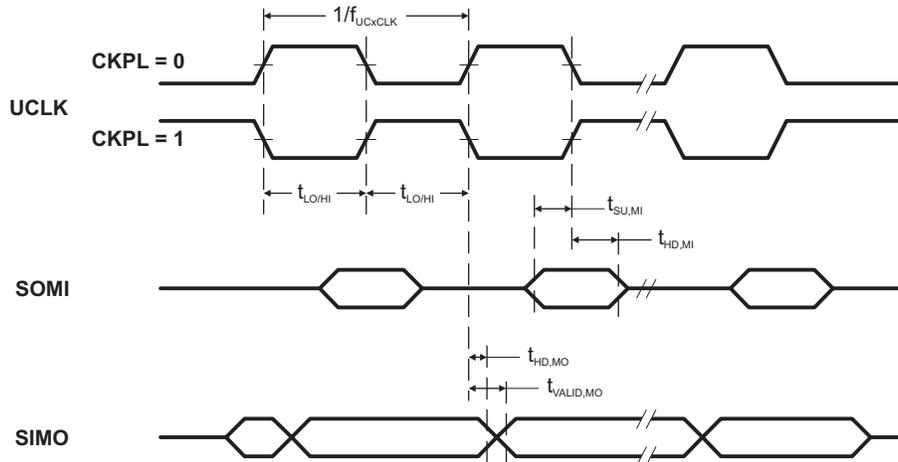
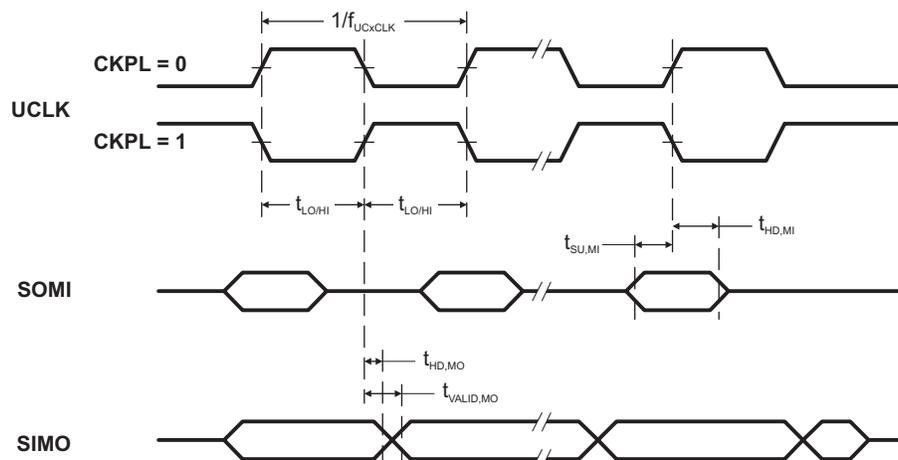

Figure 13. SPI Master Mode, CKPH = 0
Figure 14. SPI Master Mode, CKPH = 1
(see Note (1), Figure 13 and Figure 14)
(2) Specifies the time to drive the next valid data to the SIMO output after the output changing UCLK clock edge. See the timing diagrams in Figure 13 and Figure 14.
(3) Specifies how long data on the SIMO output is valid after the output changing UCLK clock edge. Negative values indicate that the data on the SIMO output can become invalid before the output changing clock edge observed on UCLK. See the timing diagrams in Figure 13 and Figure 14.
- (2) Specifies the time to drive the next valid data to the SOMI output after the output changing UCLK clock edge. See the timing diagrams in Figure 13 and Figure 14.
- (3) Specifies how long data on the SOMI output is valid after the output changing UCLK clock edge. See the timing diagrams in Figure 13 and Figure 14.